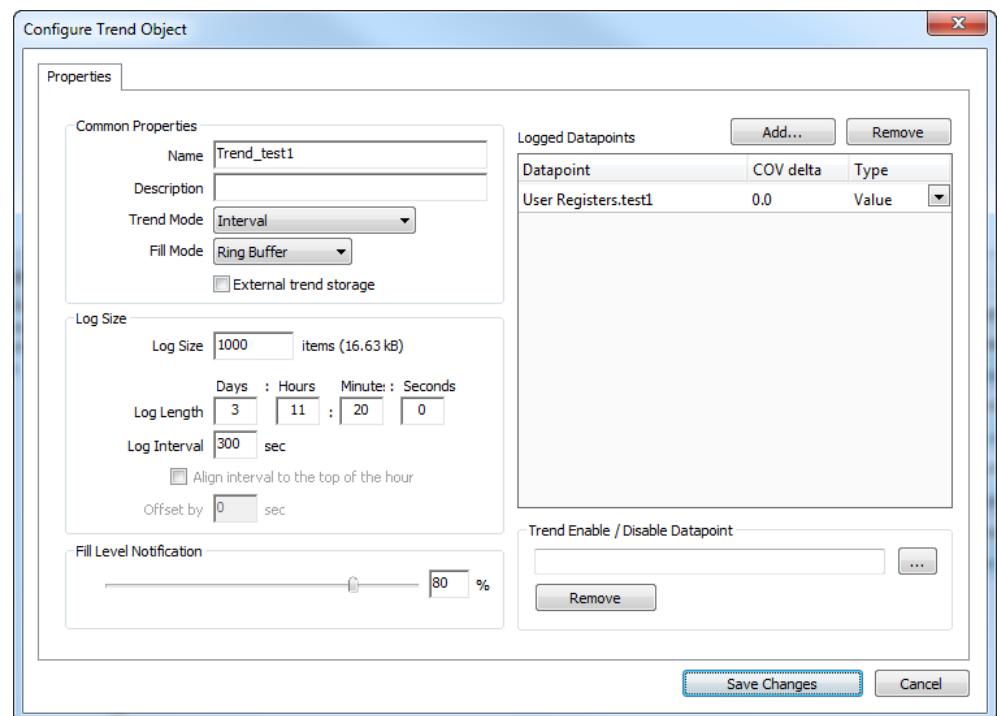

Figure 199: Basic Trend Object Configuration.
3. In the **Create New Trend Object** dialog (shown in Figure 199) enter a name and optionally a description for the trend log object.